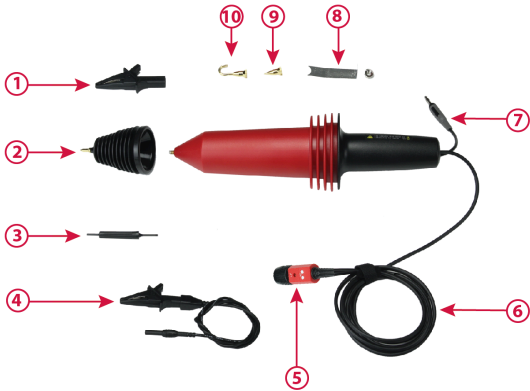

Figure 1: CT4028 Probe Accessories
5. For the best frequency response, when measuring frequencies > 40 MHz use only the Main Grounding Lead plus the Grounding Alligator Clip. (Figure 1). For frequencies < 40 MHz the Grounding Lead Extension Cable may be used and will give you better reach with the probe.